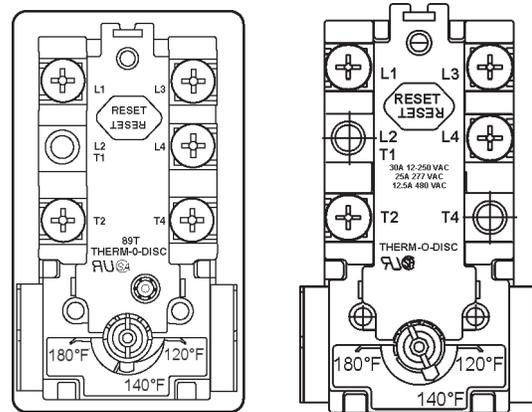

FIGURE 5
3. Depress the red manual reset button on each Thermostat/ECO combination control. (See Figure 5)